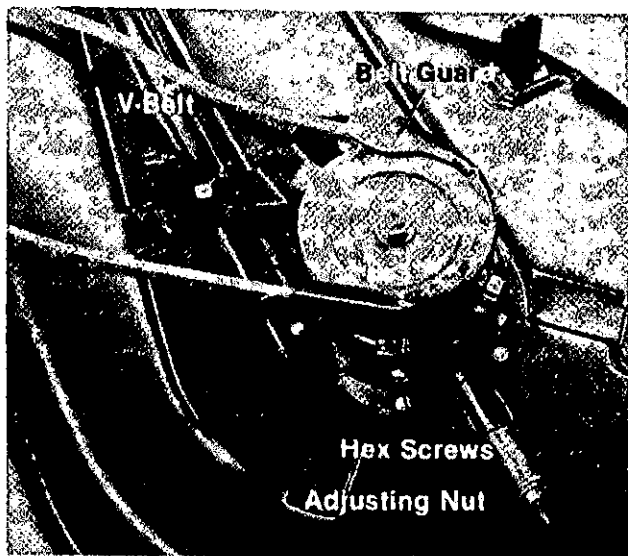

FIGURE 37.
1. Remove the two hex screws holding the belt guard to the timing belt cover. See figure 37.
1. Remove the belt guard and drive pulley. See figure 37.